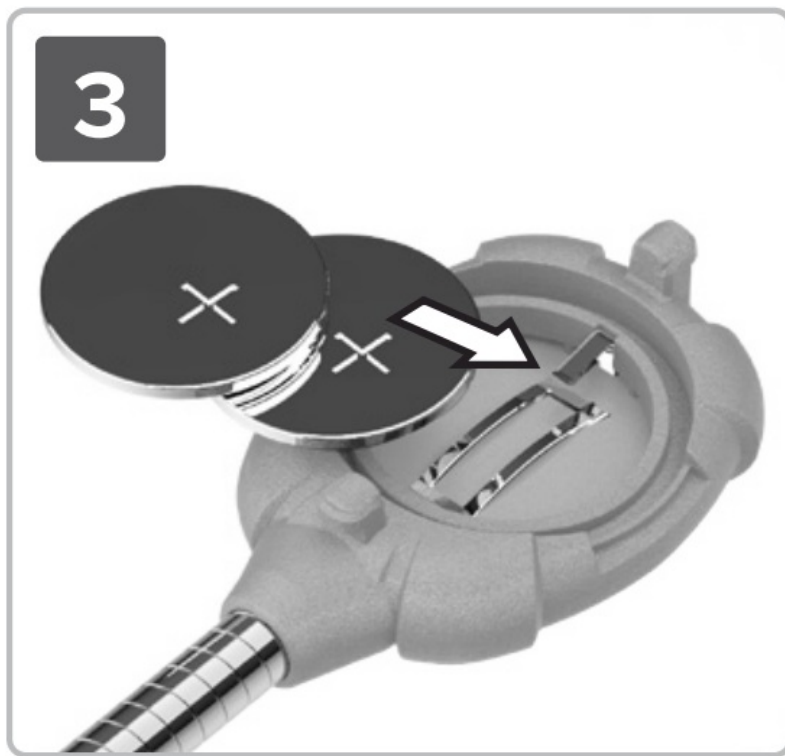

Figure 3 – Programming Mode
- 8 Figure 3 – Programming Mode
See Figure 3